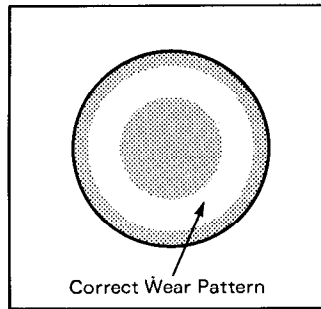

Figure 3. Roller Bearing Wear Pattern
- a. Remove the roller bearing assembly from the lower bar on the Sideshifter. The roller bearing should be free to rotate. The roller bearing should have a bright, doughnut-shaped wear pattern as shown in Figure 3.